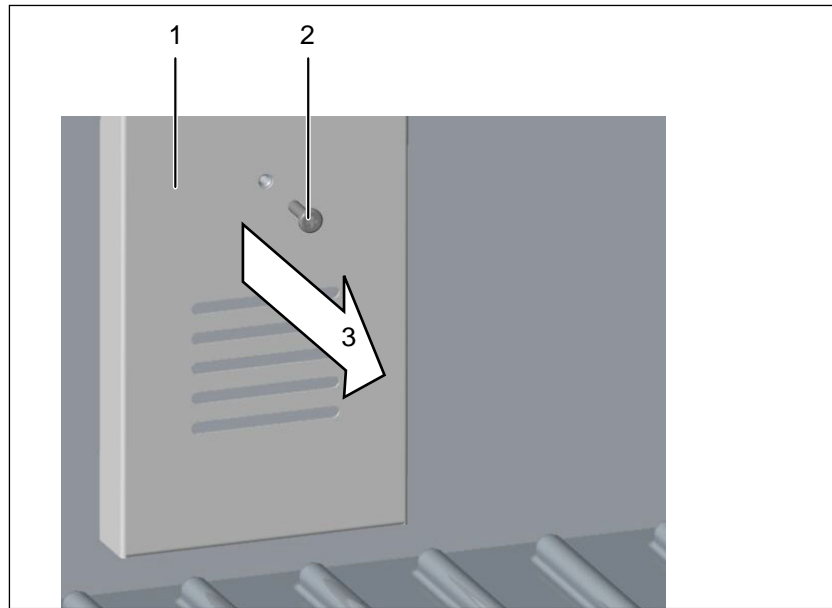

Fig. 12 Removing the fan shaft
Visual test to see if the fan wheel is turning. It is visible inside the chamber through the ventilation slits in the fan shaft on the rear (Fig. 12).
3. Inside the chamber (Fig. 12), undo the screws (2) of the fan shaft (1) and remove the fan shaft (3); the fan wheel is now accessible.